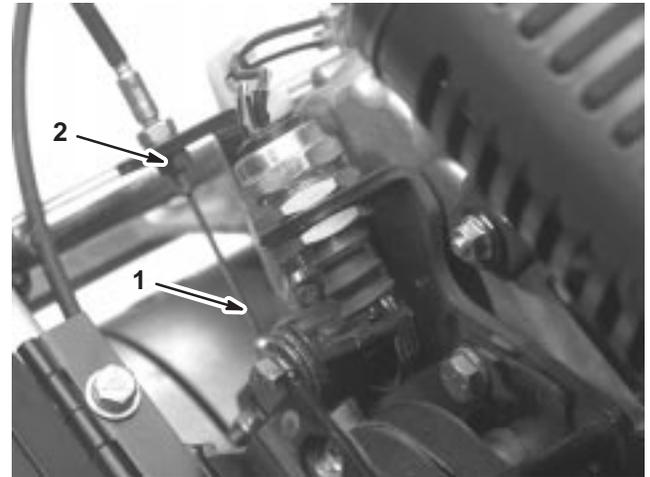

Figure 42
- To increase the cable tension, loosen the front cable jam nut and tighten the back cable jam nut (Fig. 42) until a force of 3 to 5 lb. is required to engage the traction control. Measure the force at the control knob.